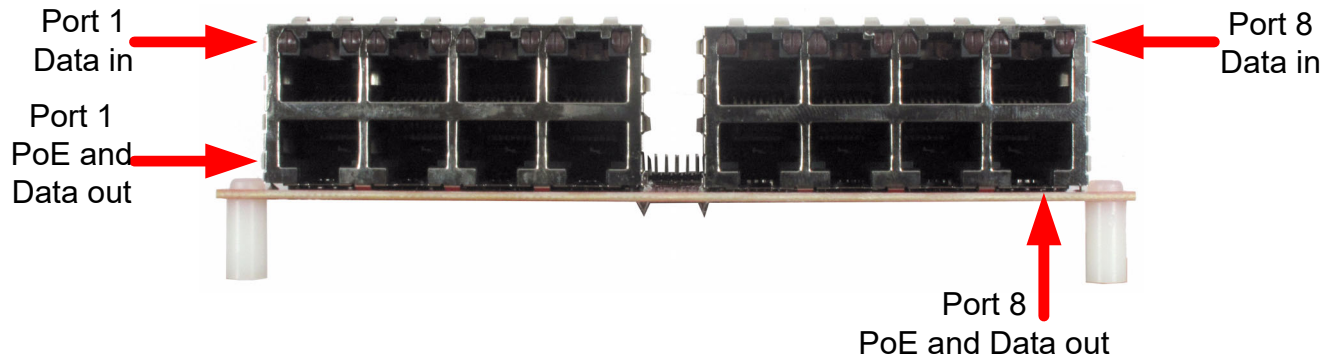

Figure 7. Connector Board Configuration
6. The Si3454 Evaluation Board is configured as a midspan power injector. The data input lines are on the top row, and the power plus data output lines are on the bottom row. See Figure 7. A Powered Device (PD) is plugged into the bottom row.